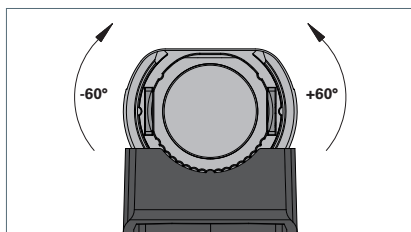

Fig. 6: Aligning the luminaire between -60° and +60°.
- ▶ Turn the luminaire at an angle between -60° and +60° until the work area is optimally lit, see Fig. 6.